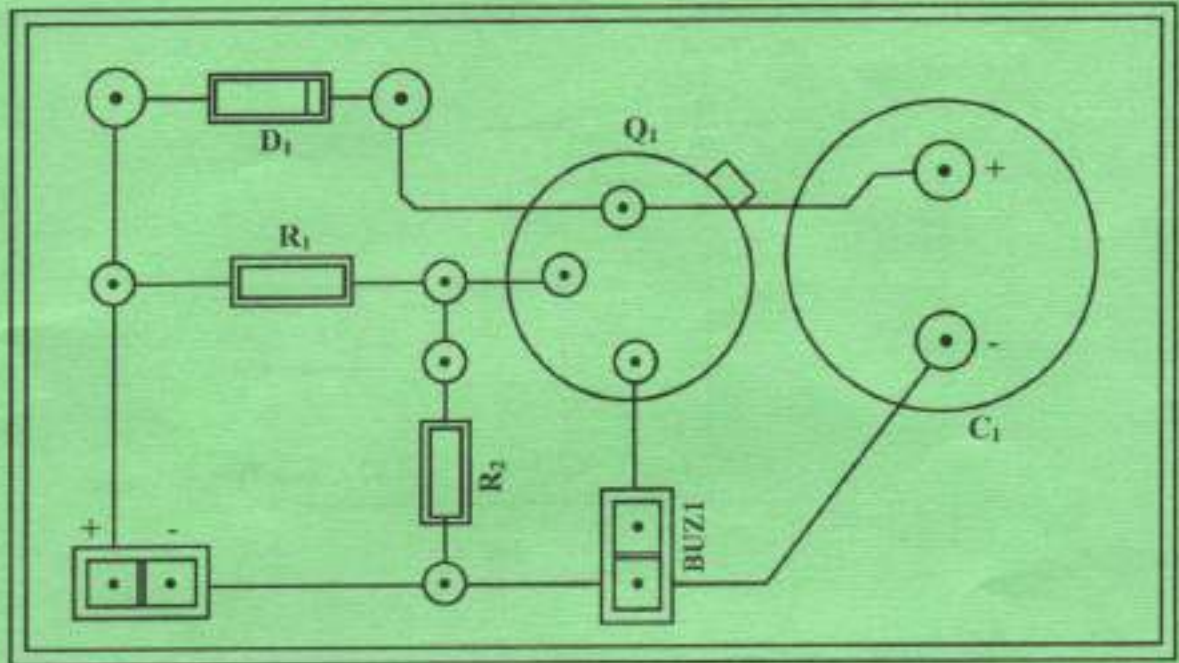

Fig. 3
6. (a) Figure 3 shows a printed circuit diagram of an electronic circuit. Draw the equivalent schematic diagram. (10 marks)